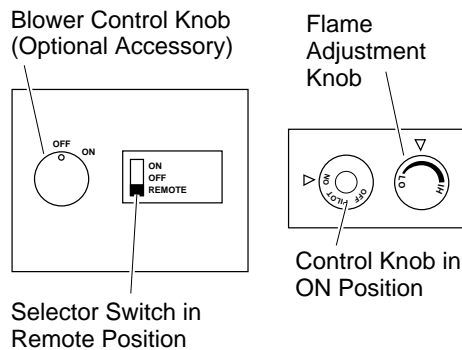

Figure 54 - Setting the (CGHRCT) Selector Switch, Control Knob, and Flame Adjustment Knob for Remote Operation
- After lighting, let pilot flame burn for about one minute. Turn control knob to ON position. Adjust flame adjustment knob anywhere between HI and LO. Slide the selector switch to the REMOTE position (see Figure 54). **Note:** The burners may light if hand-held remote ON button was on when selector switch was last turned off. You can now turn the burners on and off with the hand-held remote control unit. **IMPORTANT:** Do not leave the selector switch in the REMOTE position when the pilot is not lit. This will drain the battery. **IMPORTANT:** Be sure to press the ON/OFF buttons on the hand-held remote control unit for up to 3 seconds to assure proper operation.